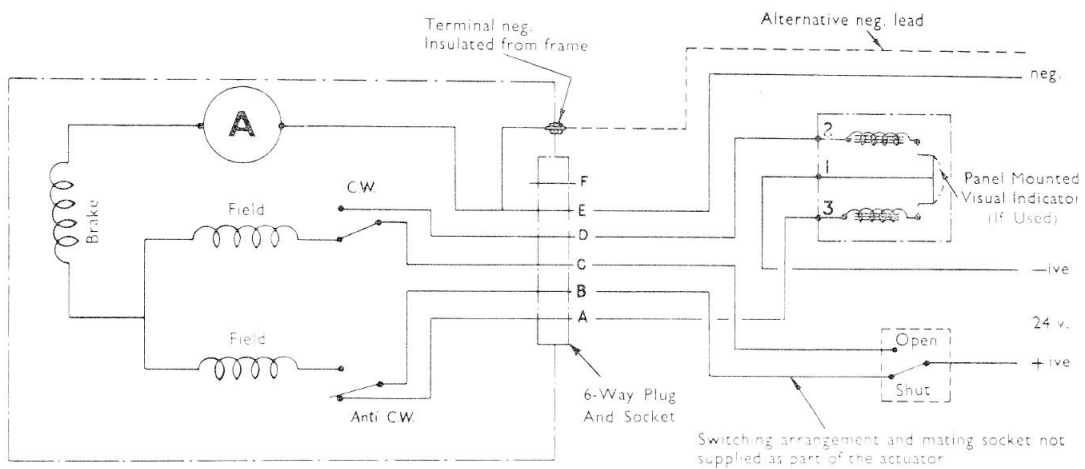

Fig. 3. Circuit diagram
5. The switches are of the single-pole, change-over, snap-action type and are wired to enable warning lights to be incorporated in the external circuit. The circuit diagram (fig. 3) is a typical aircraft installation arrangement and shows the switches connected to a remote indicator.
7. A diagram of the internal connections of the actuator appears in fig. 3. Connections from the actuator are made at a 6-pole plug and socket, the plug of which is mounted on the actuator. An insulated 4 B.A. terminal, fixed in the side of the switch housing, serves as an alternative point of connection for the negative lead. When this terminal is used, pin E in the plug and socket remains unconnected.